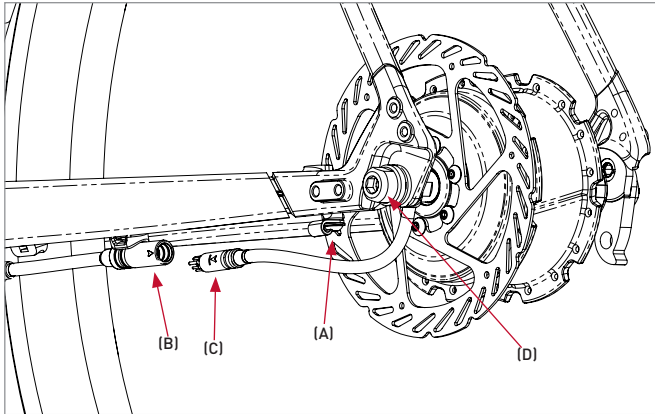

Figure 2
Refer to Figure 2 and follow these steps when removing the rear wheel to avoid damage to the MAHLE system and cable guides.
Refer to Figures 2, 3, and 4 for correct wheel installation.
2. Use 8mm hex key or 17mm open-end wrench to tighten axle nut (D) on the left and right sides of the bicycle to 23Nm (Figure 2).
3. Connect frame motor cable (C) to hub motor cable (A) by aligning the arrows on the plugs to align the plug and socket (Figure 2).
4. Press the hub motor cable (A) into the J-clip (B). The J-clip will flex to fit the cable (Figure 2).